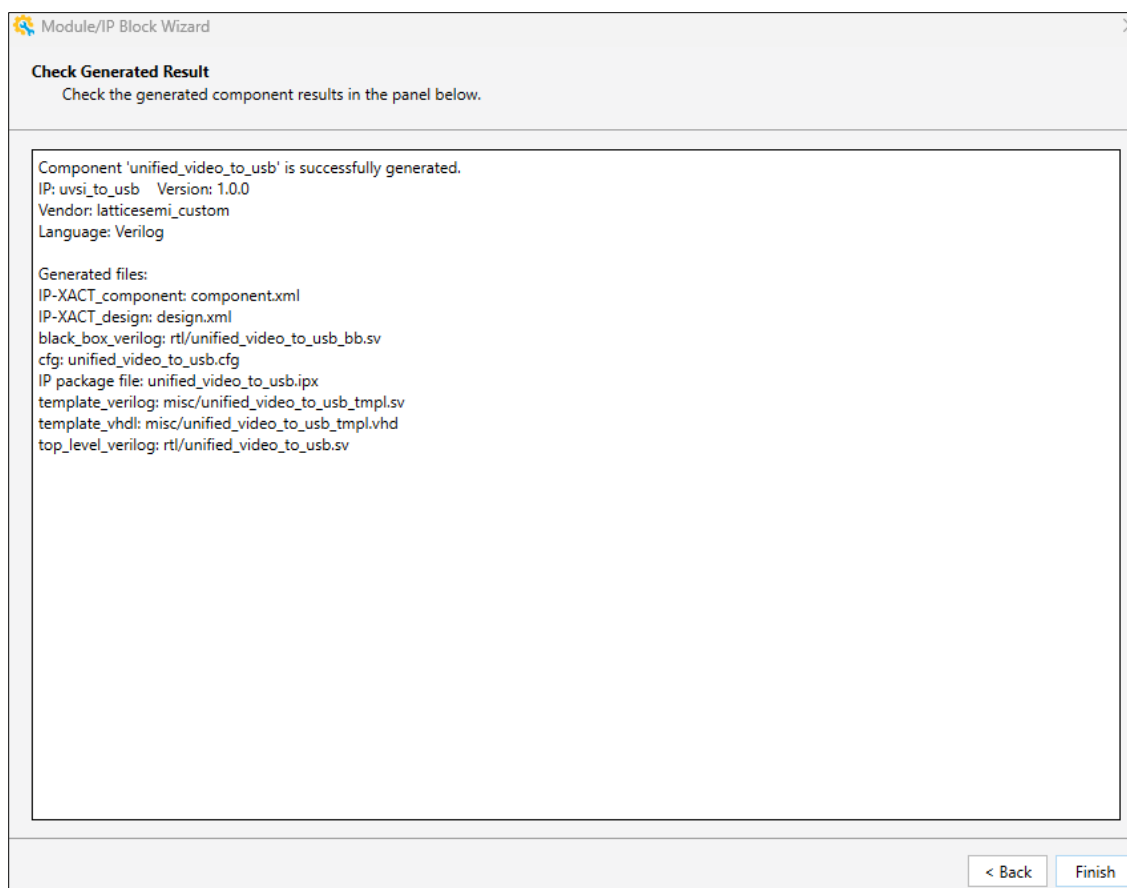

Figure 7.16. Video-to-USB Check Generated Result Window
4. After the generation is completed, click **Finish** in the **Check Generated Result** window (Figure 7.16).